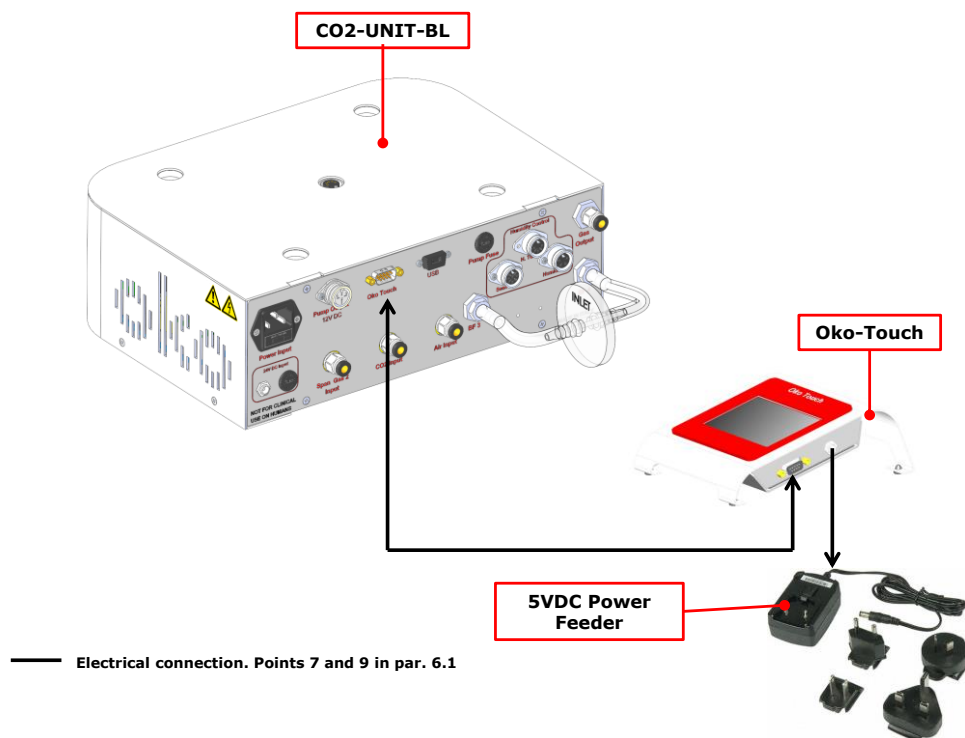

Figure 11: Oko Touch Connection.
4. Connect the touch screen interface OKO-TOUCH to the CO₂ Controller with the RS232 serial cable as illustrated in Figure 11. Connect the 5V-DC Power adapter to the OKO-TOUCH.